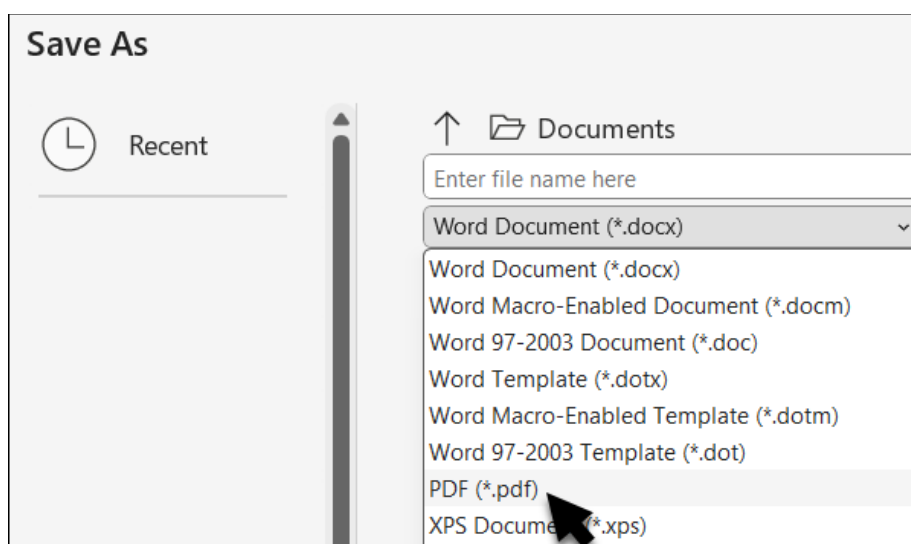

Figure 90. How to save an offline instruction file written in MS-Word as a PDF.
- If using the template file in MS-Word, generate the PDF by going into the **File>Save As** menu option and selecting PDF as the file type from the dropdown box (Figure 90, next page).